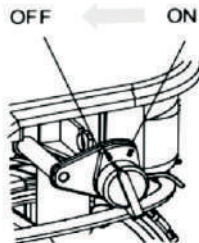

Fig 8.
- a). Turn the engine switch to the ON position (Fig 8).